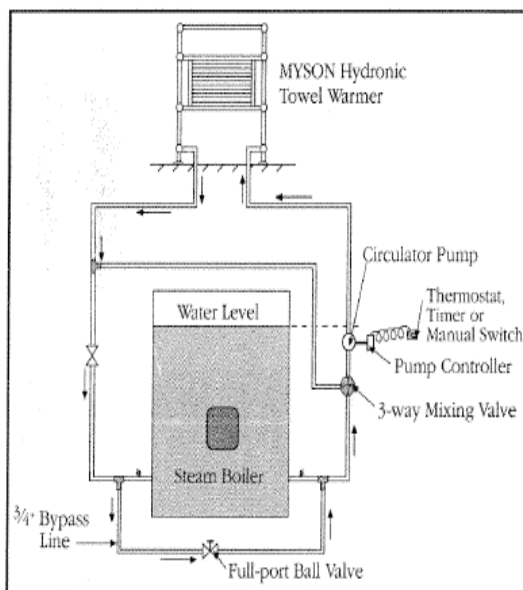

fig 5: Steam Boiler (using condensate) Connection
2. Connect Towel Warmer on a separate zone with the circulator pump on the feed line to the Towel Warmer as shown in fig 5.